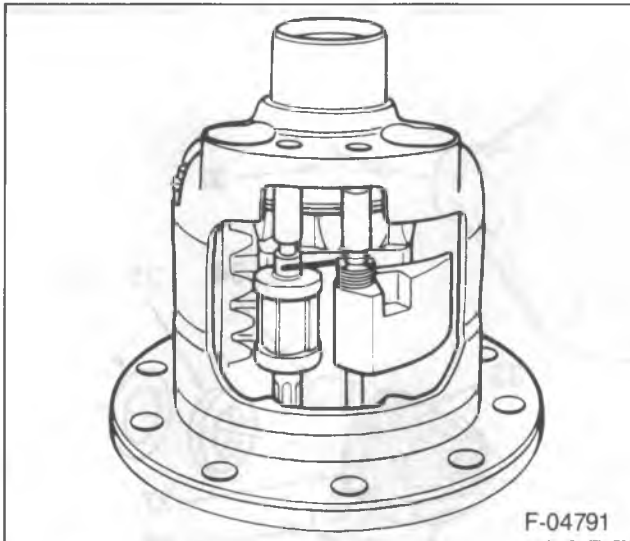

Figure 8—Governor and Latching Bracket
- 7. Pinion shaft (18).
- 8. A new lock screw (3). Install finger tight.
- 9. Governor assembly (23) and latching bracket (11).
- The straight end of the latching bracket spring must be over and outside the governor assembly shaft (figure 8).
- 10. Stop pin (2) (9¹/₂-inch)
- 11. Governor bushing (4).
- 12. Latching bracket bushing (5).